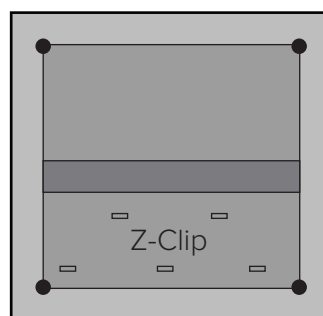

Figure 3.4.1
3.4.1 Fasten Z-clips to the cab shell at each open slot in the template as shown in Figure 3.4.1. Z-clip is approximately 8” shorter than panel width.